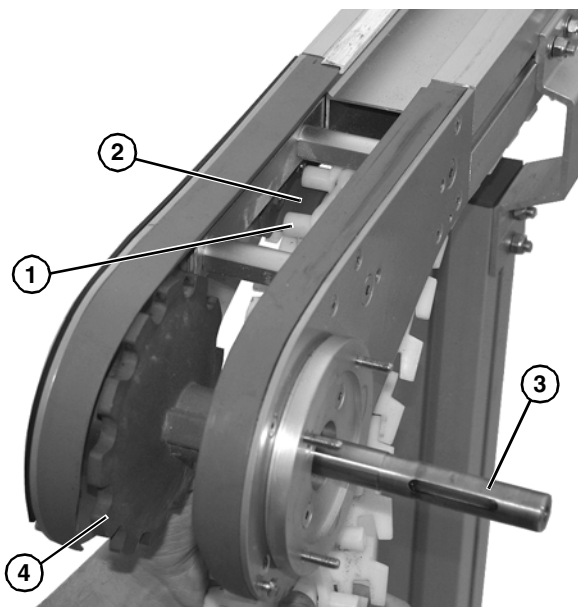

Figure 20
3. Continue wrapping belt (Figure 20, item 1) on top of idler tail retaining guide (Figure 20, item 2), continuing to turn shaft (Figure 20, item 3) to guide belt around cogs (Figure 20, item 4) of shaft.